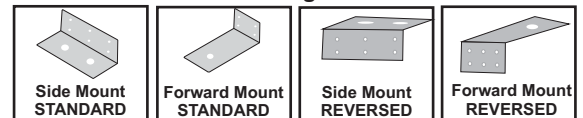

Fig 2
2. On the post that the gate will close too (Fig 2).
**A** Using a Spirit Level/Bubble Level Draw a horizontal line across the desired gate rail, this line should continue across the gate post as shown in Fig2.
**Note:** The post mounting brackets can be installed as illustrated in Fig 2, Standard or Reversed. Please choose the method that suits your installation requirement and proceed with the below.